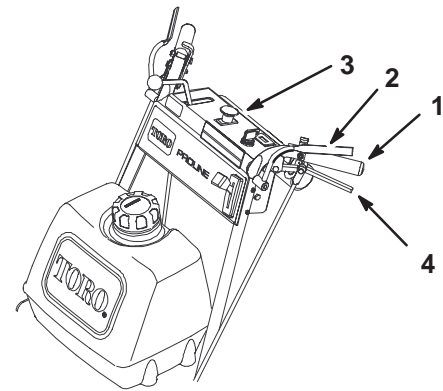

Figure 15
- To engage the blade, press the Operator Presence Control (OPC) levers against handle grips (Fig. 15).
- Release Operator Presence Control (OPC) levers to disengage blades (Fig. 15).